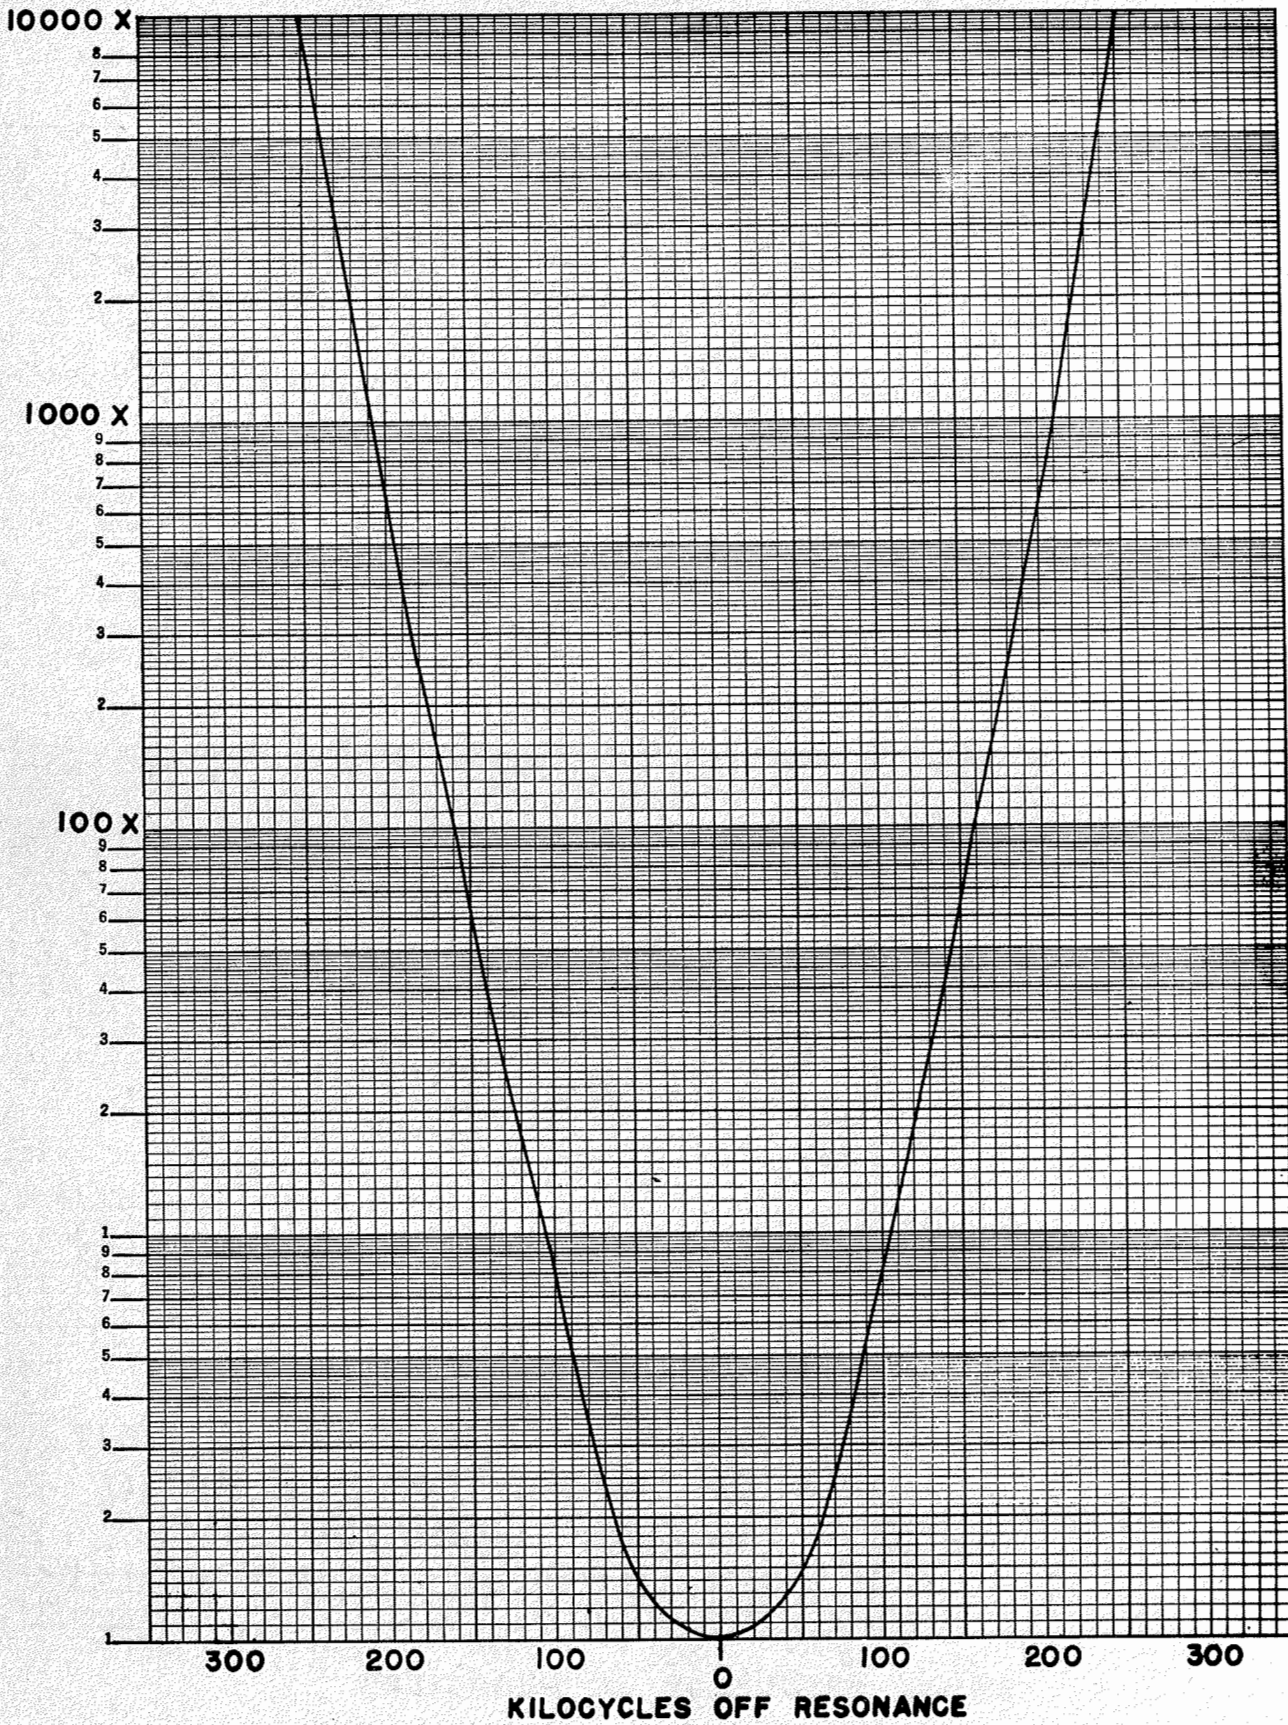

Figure 6-3. Radio Receiver—IF Selectivity Curve
a. GENERAL. — The selectivity (measured band width) of the receiver over its specified frequency range will be found to be within the limiting values given in figure 6-3. The values obtained were measured at a 10-milliwatt level by the standard, single-signal generator method.